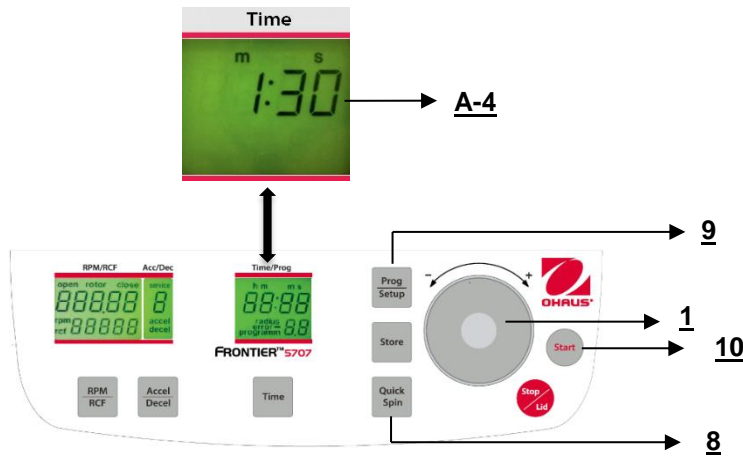

Figure. 24
You can start the centrifuge either with the **"Start"** key (10) (refer to figure 24) or the **"Quick Spin"** key (8).